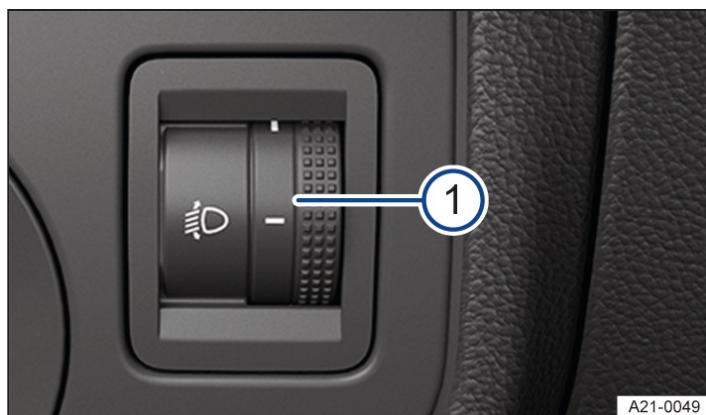

Fig. 1 Next to the steering wheel: control for headlight range control.
1. Turn the control → Fig. 1 ① to the required position (typical vehicle load level).